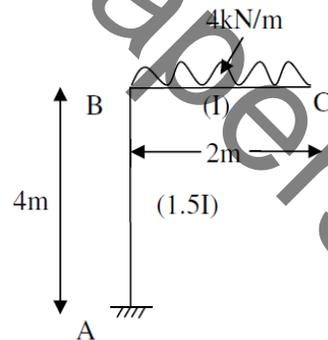

Figure: 4
4. Determine the horizontal and vertical component of deflection at the Point 'C' of the frame shown in figure 4. Take $E=200 \times 10^3 \text{ N/mm}^2$ and $I=6 \times 10^7 \text{ mm}^4$. Use Strain Energy method. [15]